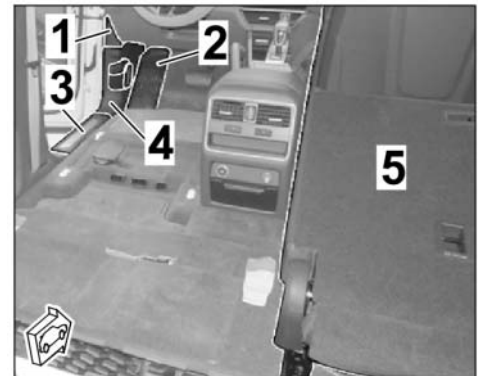

Figure 10
1.5 Expose the A-pillar area (left side) (⇒ *Figure 10*)